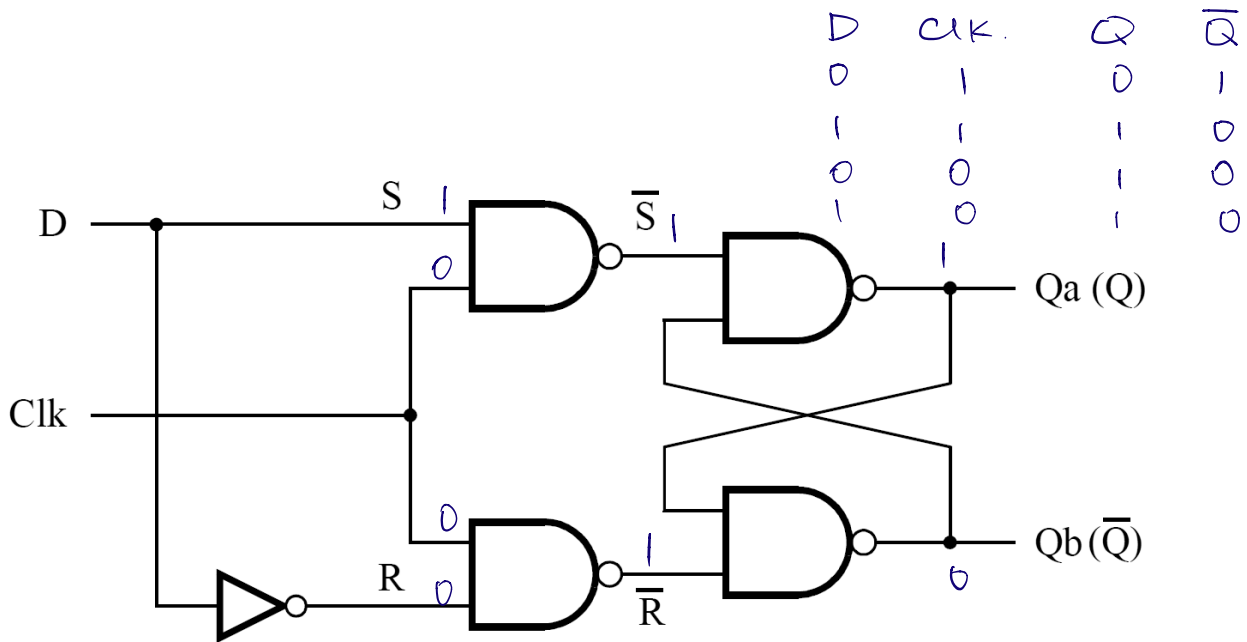
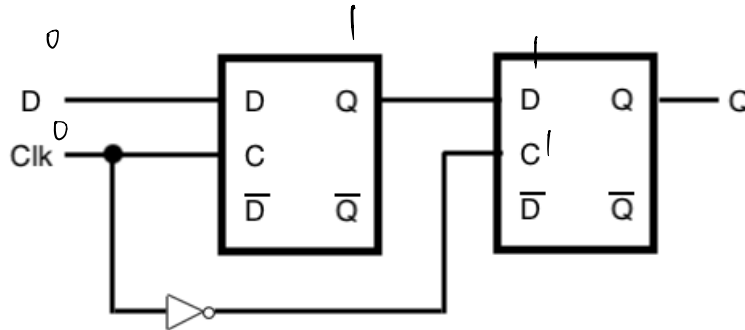

Figure 1: Circuit for a gated D latch.
Figure 2: Circuit for a master slave flip flop using gated D latches.
To explore the behaviour of latches, in this lab you will create a latch using *NAND* and *NOT* logic gates. Figure 1 shows the circuit for a gated D latch.
The most common storage element today is the *edge-triggered D flip-flop*. One way to build an edge-triggered D flip-flop is to connect two D latches in series, such that the two D latches use opposite levels of the clock for gating the latch. This is called a master-slave flip-flop, see Fig. 2.
1. In Logisim, build this gated D latch from Fig. 1 and the master slave flip-flop from Fig. 2, each in its own module. The flip-flop should be implemented using the module you create for the D latch, and the latch should make use of the logic gates available in the *Gates* component set. Note that for this part you should still use the default input type for signal *Clk* (not the special clock signal in the *Wiring* set). (PRELAB)